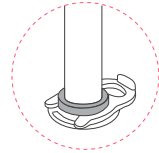

Figure 15
**NOTE:** Make sure it is fully inserted until you reach the mark on the tubing and pop up the lock clips into every water port to avoid leaking water (Figure 15).